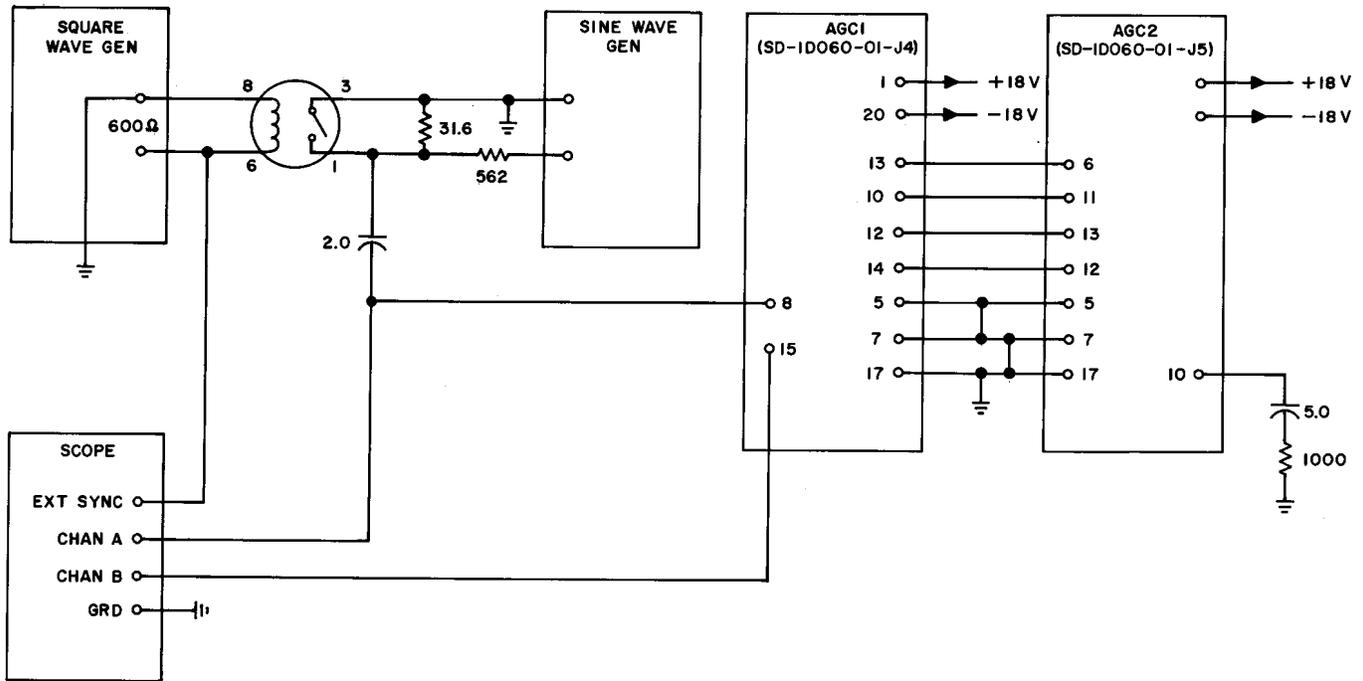
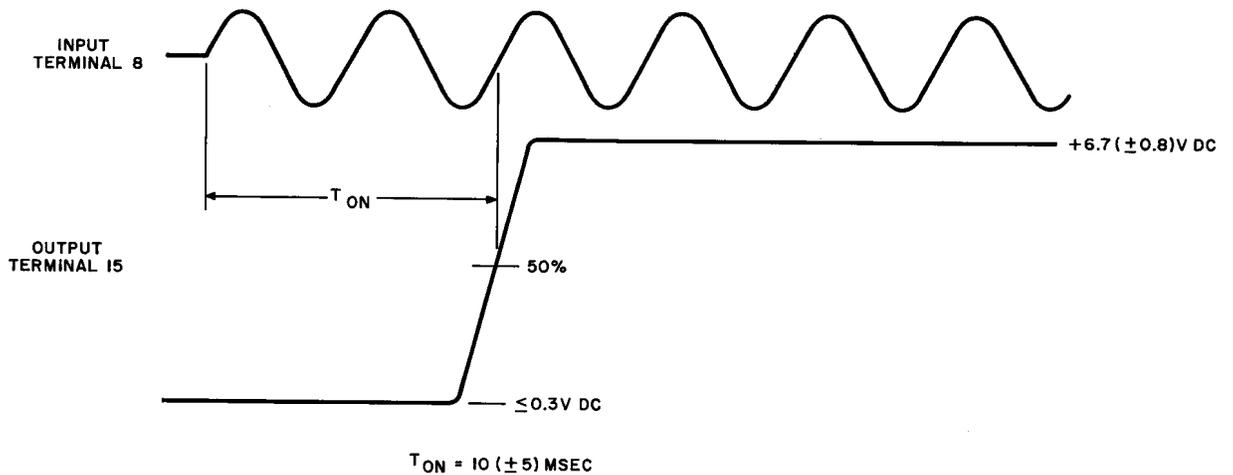

Fig. 15A — Automatic Gain Control 1 Test Circuit
Fig. 16A — Automatic Gain Control 1 Test
(1) The carrier detector response test of the AGC1 circuit pack is made in conjunction with the AGC2 circuit pack. Connect the circuit packs as in the suggested test circuit shown in Fig. 15A. Apply power to both circuit packs as in 4.11A (1).
(2) Set the frequency of the square-wave generator to approximately 1 Hz. Set the symmetry control to its center position and the 600-ohm output amplitude control to 0.
(3) Set the frequency of the sine-wave generator to 1800 Hz (± 5 percent). Adjust the generator amplitude control until the input level at terminal 8 of the AGC1 circuit pack is 2.0 dB higher than the level recorded in 4.12A (3). Set the 600-ohm output amplitude control of the square-wave generator to its center position.
(4) Set the scope EXT SYNC TRIGGER selector to the positive (+) position. The input waveform on terminal 8 of the AGC1 circuit pack and the output waveform on terminal 15 of the AGC1 circuit pack shall be as specified in Fig. 16A.